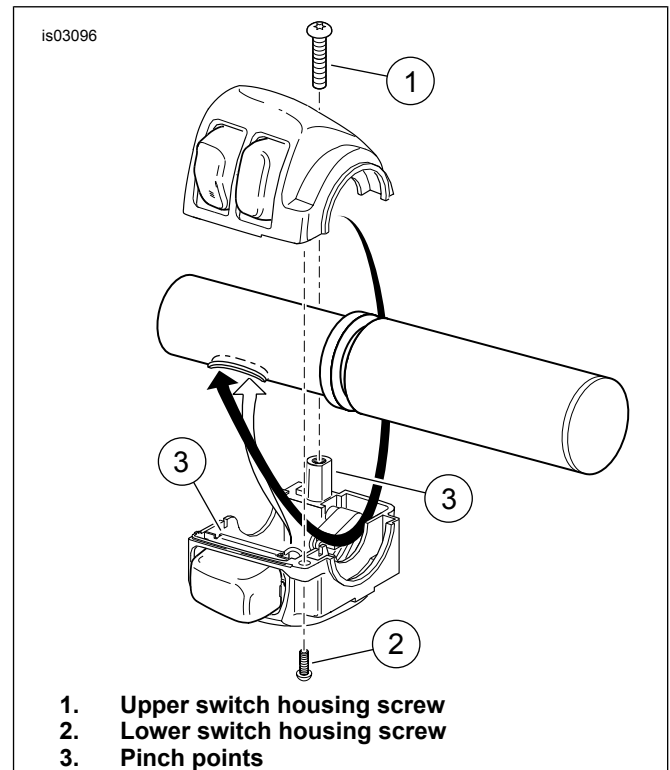

Figure 3. Switch-Housing Wire Routing (Right-Side Housing Shown)
8. Gently feed the Twist Grip Sensor wire bundle into the right-side handlebar end. See Figure 3. Route the right-side switch wire bundle through the switch housing as shown. Gently feed the wire bundle into the right-side switch wire hole. Pull the bundles down through the new handlebar and toward the center of the bar, while fitting the index tabs on the twist grip sensor into the slots on the end of the handlebar. One index tab and slot are smaller than the other to prevent improper assembly.
12. Route the left-side switch wire bundle through the switch housing similar to that shown in Figure 3 for the right-side wiring. Gently feed the wire bundle into the left-side switch wire hole. Pull the bundle down through the new handlebar and toward the center of the bar.